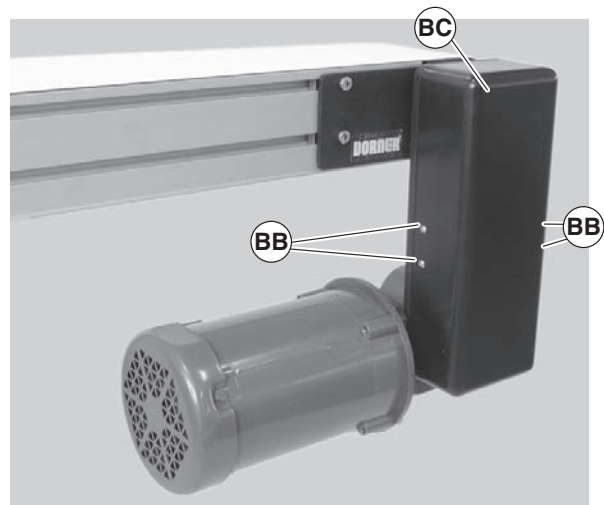

Figure 41
- b. Remove four (4) screws (Figure 41, item BB) and remove cover (BC).